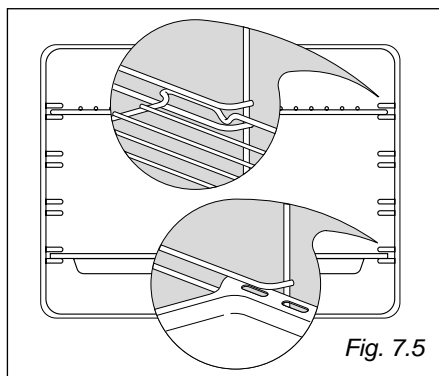

Fig. 7.5
- Slide the tray and rack into the runners (Fig. 7.5).